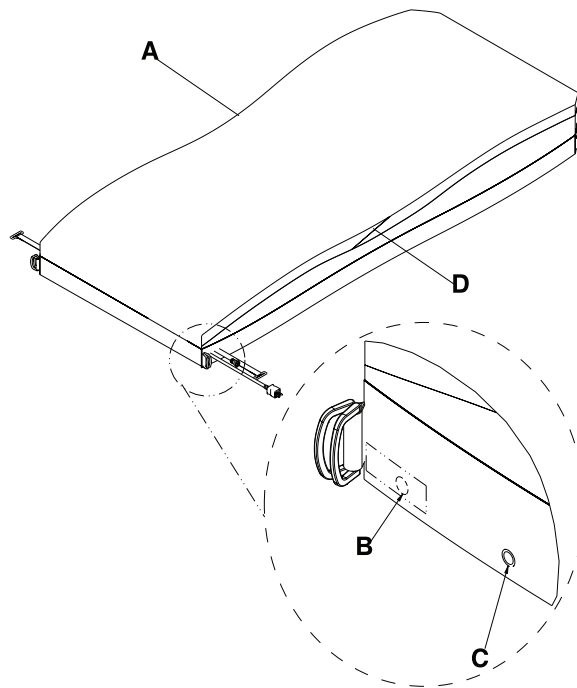

Figure 1-25: Top cover
5. Unsnap the two secure snaps (C) at the foot end corners (Figure 1-25 on page 1-53).
6. Unsnap the two foot end corner retainers (B) (Figure 1-25 on page 1-53).
8. Unzip the support surface top cover from the bottom cover using the zipper pull tool or equivalent (A) (Figure 1-25 on page 1-53) and stop unzipping at the middle of the opposite side (D).